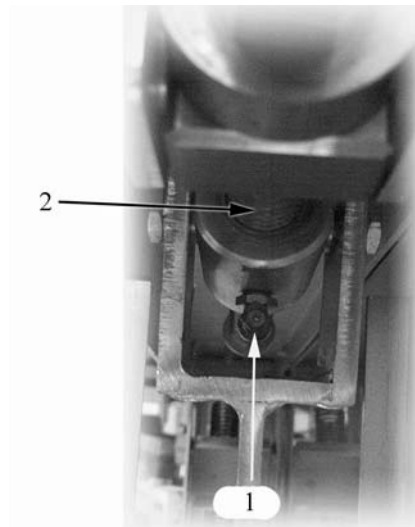

Fig. 26
- grease the point indicated in item 1 in Fig. 26.
- apply a light coating of grease on the internal thread in item 2 in Fig. 26.